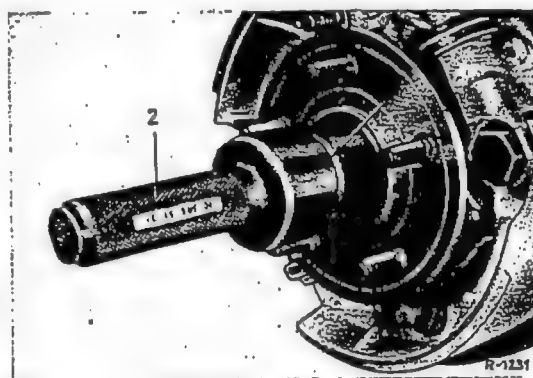

Fig. 33-5/10
29. Put anti-friction bearing grease into the hub cap (for prescribed amount see Job No. 33-0) and press on the cap using Fixture 180 589 11 39 (Fig. 33-5/10).